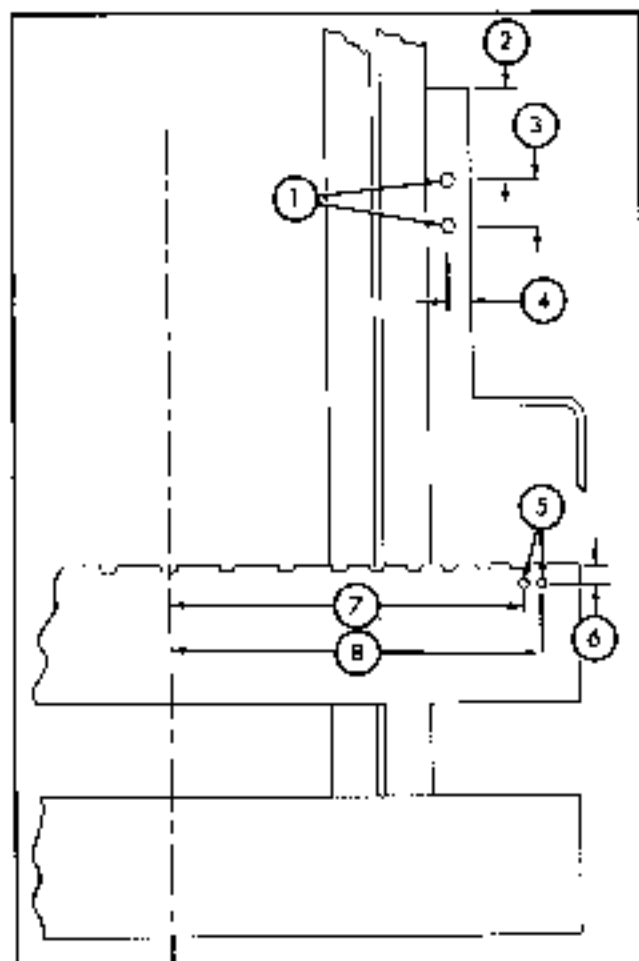

Fig. 154. Reel and block mounting holes
2. Pipe spacers (3)
i. Drill two 17/32 inch holes in cowl, as shown in Fig. 154, for mounting hose reel. Drill holes in both sides of cowl if two hose reels are to be installed.
j. A new hole must be drilled and tapped in backside of upper carriage bar for mounting junction block. Drill a 5/16" hole, 3/4" deep, in back of bar, at location shown in Fig. 154, depending on height of upright on lift truck. Tap hole to 3/8"-16 N.C. thread, 5/8" deep.